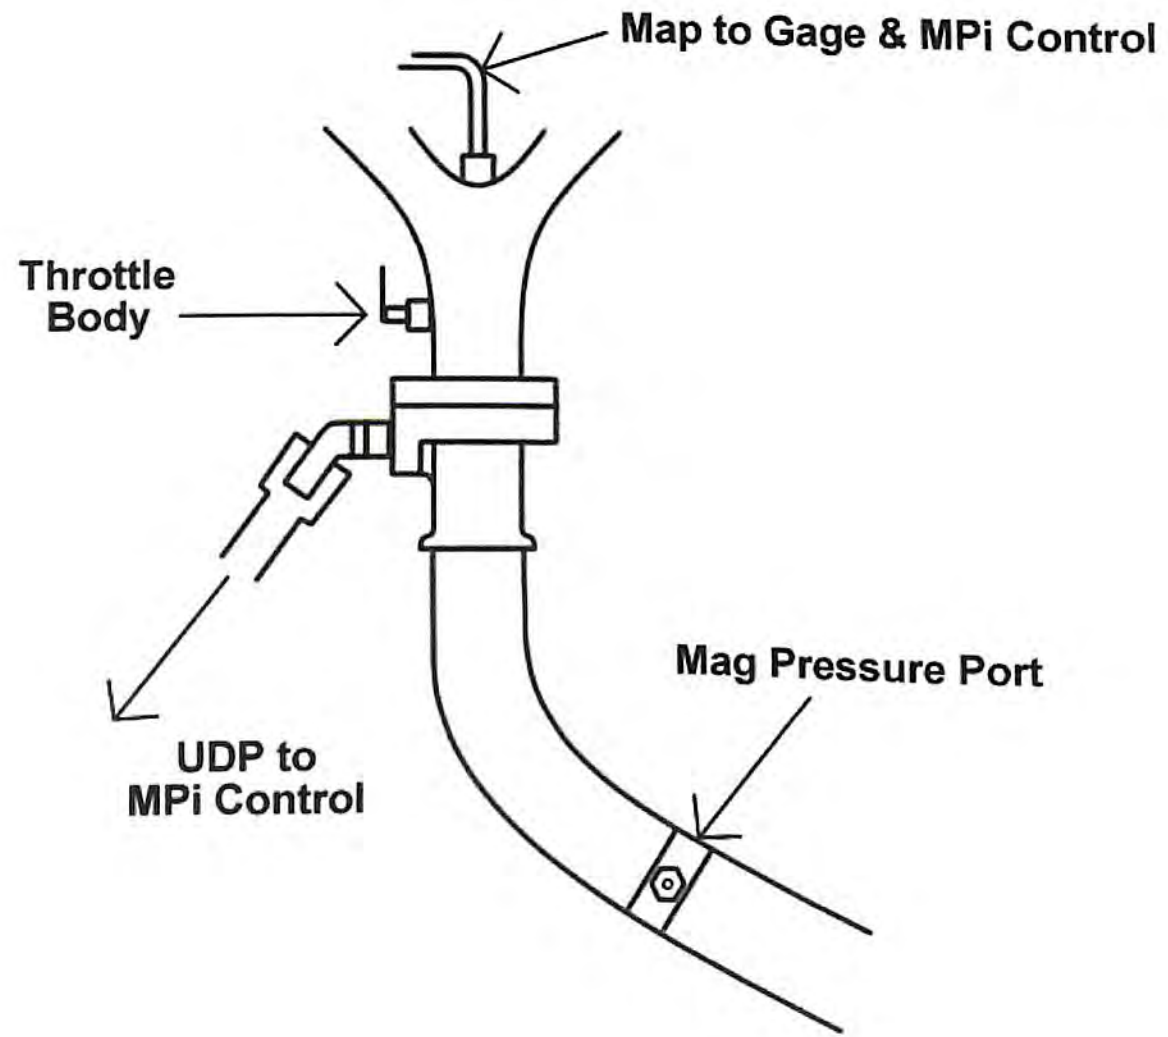

Figure 2
4.18.1 One option is accomplished by moving upstream from the throttle body, drilling a 5/16 inch hole in the tube and installing the MPi 20-1002-504 Mag Pressurization Clamp Assembly. The 5/16 inch hole should be about 4 to 5 inches upstream of the throttle body and oriented about 45° to the left (see Figure 2). When the Mag